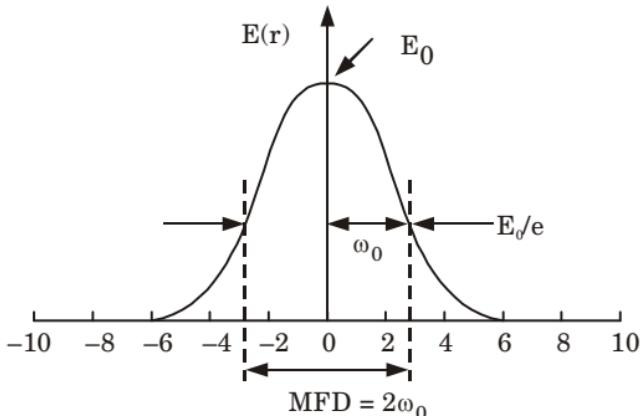

Fig. 1.24.1. Field amplitude distribution $E(r)$ of the fundamental mode in single mode fiber illustrating the mode-field diameter (MFD) and spot size (ω_0).
3. MFD is generally taken as the distance between the opposite $1/e = 0.37$ times the near field strength (amplitude) and the power $1/e^2 = 0.135$ points in relation to corresponding values on the fiber axis as shown in Fig. 1.24.1.